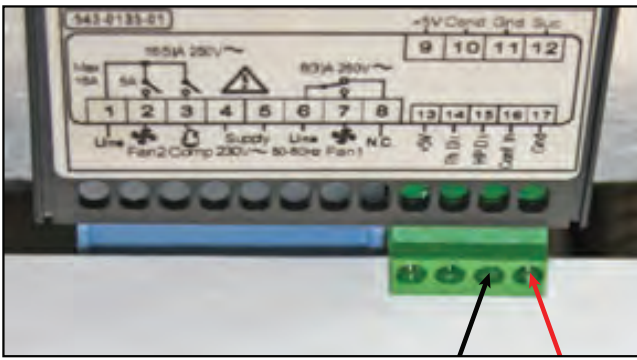

Figure 15 – Measuring Suction Pressure Transducer Voltage
3. Using a voltmeter, measure voltage between pin 12 and pin 11 on the top of the green-block-plug located on rear of controller (See **Figure 15**).